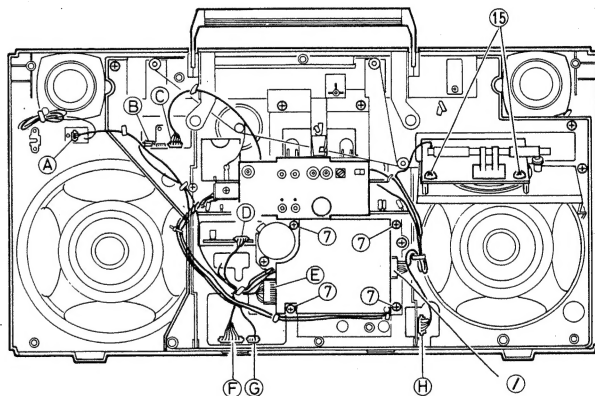

Fig. 8
C. Mechanical unit (Fig. 8)
1. Remove 4 screws (7) – SBSF3010V.
2. Remove a wire connector (1).
E. Other parts (Fig. 8, 9)
1. Tweeters = remove 4 screws (9) – SBSF3008Z.
2. Woofers = remove 8 screws (10) – SBSF4010Z.
3. Connector P.W. boards and power switch P.W. board = remove 7 screws (11) – SBSF3010Z.
4. MMS jack and phones P.W. boards = remove 4 screws (12) – SBSF3008Z.
5. Mechanical operation button P.W. board = remove 2 screws (13) – SBSF2616Z.
6. Pre-amp. and main amp. P.W. board = remove 2 screws (14) – SBSF3012V.
7. Tuner P.W. board = remove 2 screws (15) – SBSF-3012V.